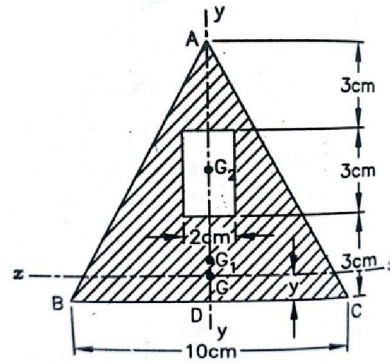

Fig.6
- 13 A rectangular hole is made in a triangular section as shown in Fig 6. Determine the M.I. of the section about x-x axis passing through the CG of the section and (10)